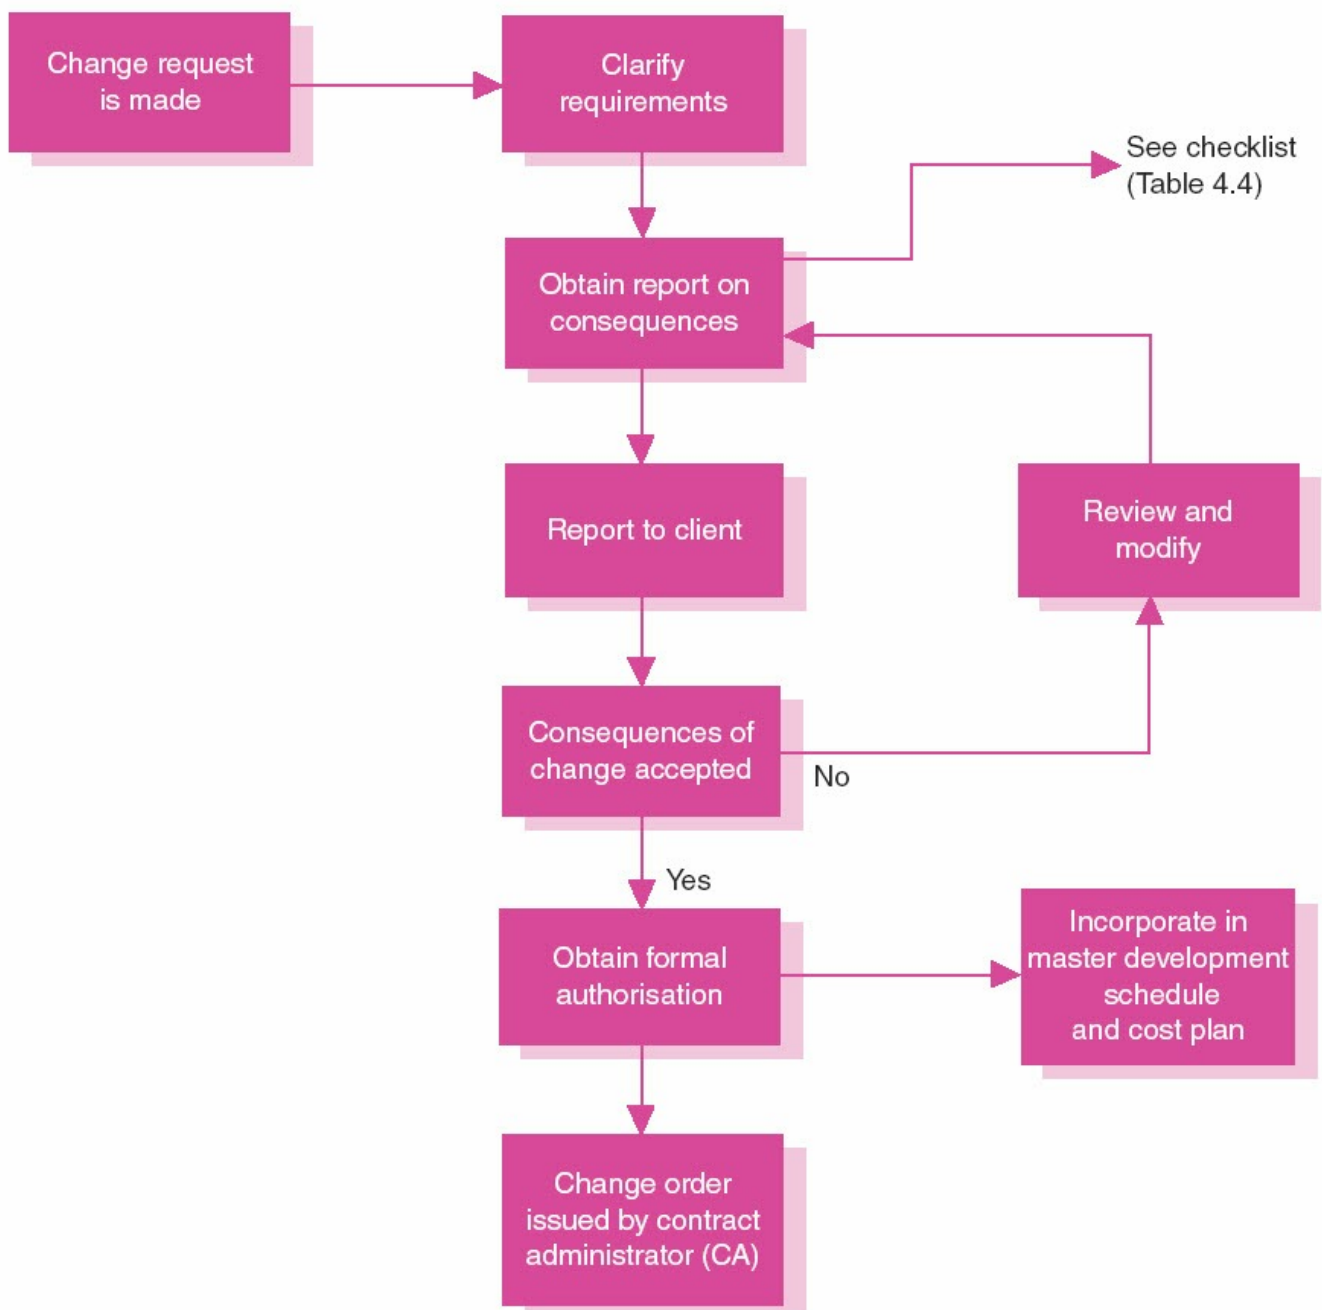

Figure 4.4 Changes in the client brief
- Monitoring and controlling variations which result from changes to the project brief to be avoided whenever possible (Figure 4.4) or design/schedule modification (e.g. Clients request, architects or site instructions) must follow a procedure which: